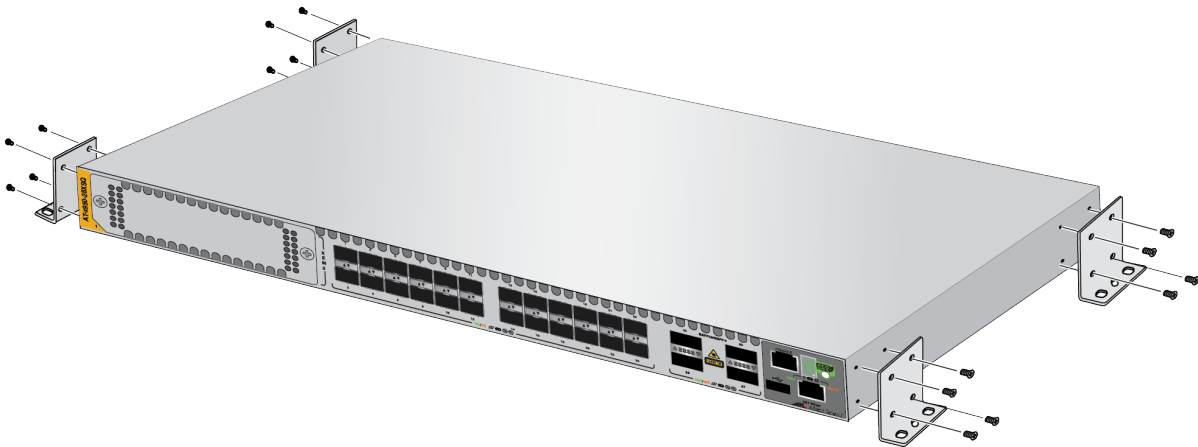

Figure 74. Installing the Brackets to the Switch for Wall Installation
2. Install the four brackets with the sixteen screws that come with the switch to the sides of the unit, as shown in Figure 74.
2. Install the four brackets with sixteen screws that come with the switch to the sides of the unit, as shown in Figure 74 on page 124.